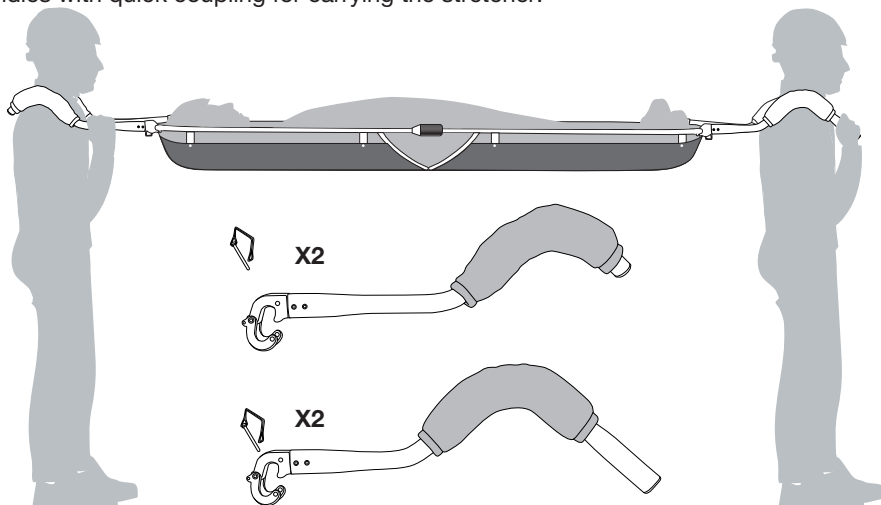

Fig.2
- a) Handles, for “shoulder” transport (fig. 2),